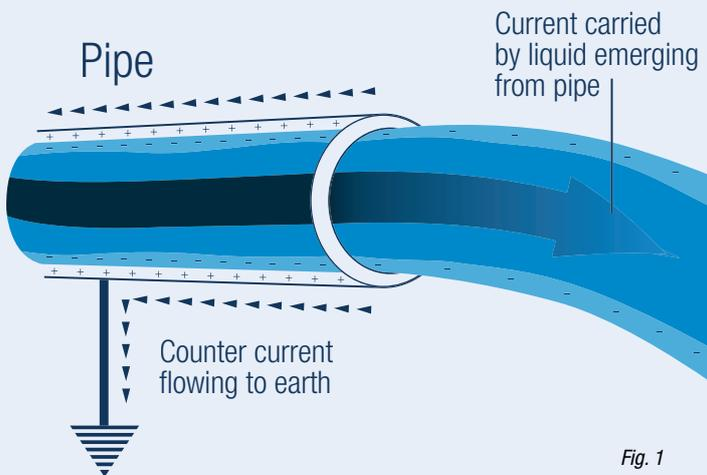

Fig. 1
*Triboelectric charging is the main cause of electrostatic charging. A typical example is shown in fig. 1.*
- A spark discharge occurs when a charged conductor approaches another conductor. For example: in fig. 1, a spark discharge could occur when the earthing contact of the pipe is lost. Such spark discharges can be very powerful when conductors with a large capacity are involved.
- Earth all conductive items (see fig. 1). This does not prevent the charging mechanism, but will prevent high charge levels on these conductive items (e.g. the pipe in fig. 1).